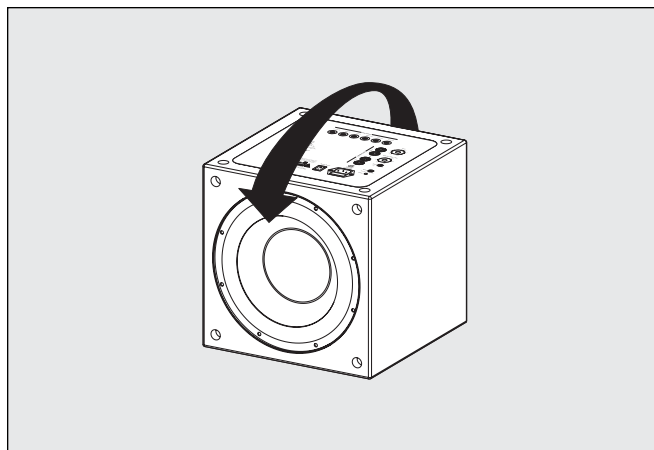

Figure 17. Step 2—Converting the Dynamo to a front firing configuration.
- 2 Rotate the cabinet 90°, positioning the backplate on top (see figure 17).